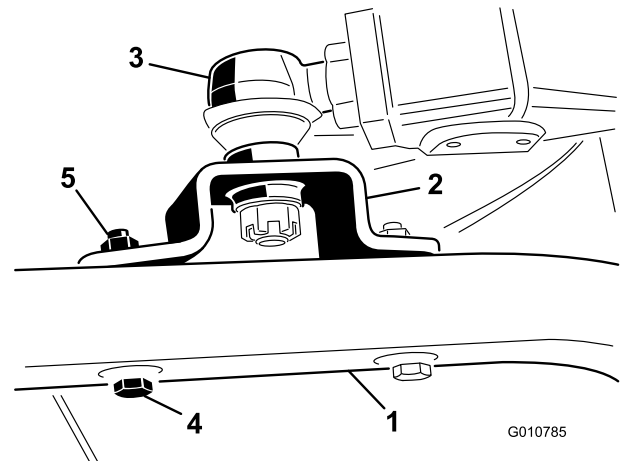

Figure 7
4. Secure the ball joint mounts to each castor arm with 2 capscrews (7/16 x 3 inches) and flange nuts (7/16 inches) (Figure 7).